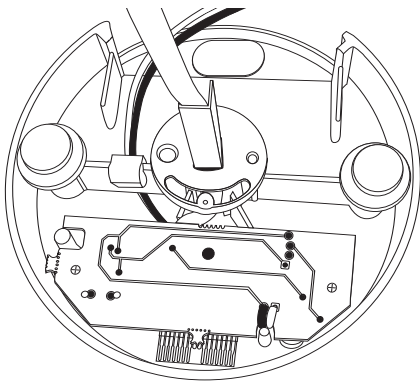

Figure 6
- Figure 6 shows an example of Right-Handed or Vertical-Up positioning.